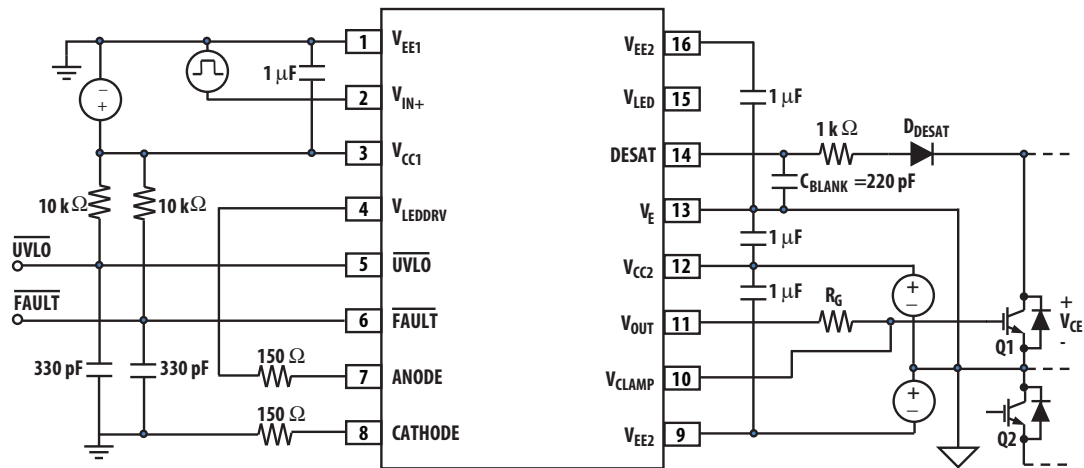
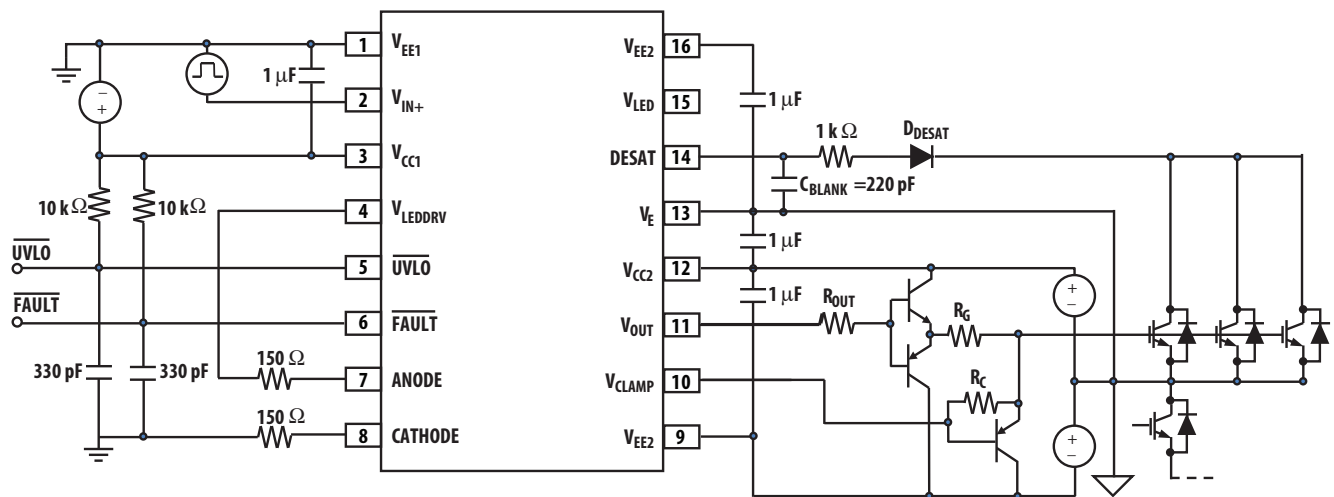

Figure 20. Typical gate drive circuits with DESAT detection
Figure 21. Typical parallel IGBT gate drive circuits with DESAT detection
The nominal blanking time is calculated in terms of external capacitance ( $C_{BLANK}$ , see Figure 20 and Figure 21), FAULT threshold voltage ( $V_{DESAT}$ ), and DESAT charge current ( $I_{CHG}$ ) in addition to an internal DESAT blanking time ( $t_{DESAT(BLANKING)}$ ).
Step 1: Calculate  $R_G$  minimum from the  $I_{O(PEAK)}$  specification. The IGBT and  $R_G$  in Figure 20 can be analyzed as a simple RC circuit with a voltage supplied by ACPL-336J.
In the recommended application circuit shown in Figure 20, the voltage on pin 14 (DESAT) is  $V_{DESAT} = V_F + V_{CE}$ , where  $V_F$  is the forward ON voltage of  $D_{DESAT}$  and  $V_{CE}$  is the IGBT collector-to-emitter voltage. The value of  $V_{CE}$  that triggers DESAT to signal a FAULT condition is nominally  $7\text{ V} - V_F$ . If desired, this DESAT threshold voltage can be decreased by using multiple DESAT diodes or low-voltage Zener diode in series. If  $n$  is the number of DESAT diodes, the nominal threshold value becomes  $V_{CE,FAULT(TH)} = 7\text{ V} - n \times V_F$ . If a Zener diode is used, the nominal threshold value becomes  $V_{CE,FAULT(TH)} = 7\text{ V} - V_F - V_Z$ . When using two diodes instead of one, then diodes with half of the total required maximum reverse-voltage rating may be chosen.